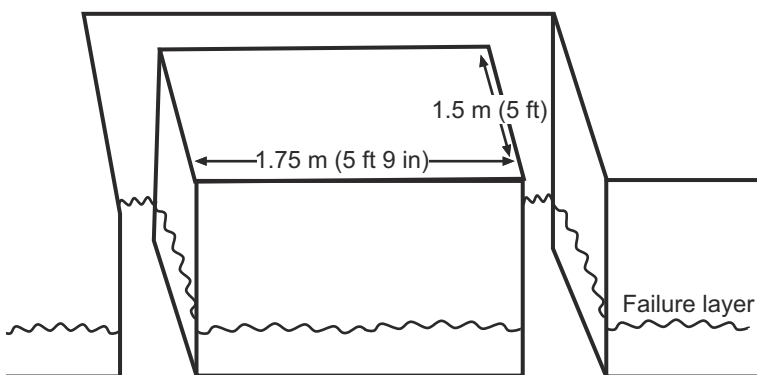

Figure 1-8. Shred Block Using Snowshoes.
- Dig the shred block. See figure 1-8 on page 1-6. Dimensions of the shred block will be a column approximately 1.75 meters wide (across the fall line), 1.5 meters on each side (up the fall line), and somewhat deeper than the suspected failure layer (to a maximum of about 1.5 meters),